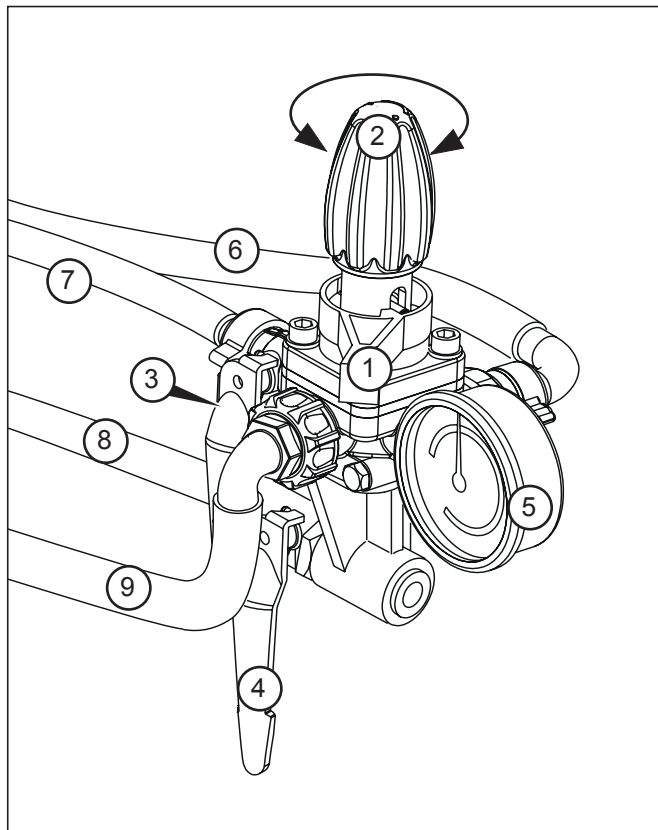

Fig. 10 - Pressure regulator
4.1.4 PRESSURE REGULATOR (Fig. 10)
The references are related to Fig. 10.
It is possible to highlight a blockage due to the irregular operation of the pressure gauge (5 Fig. 10).